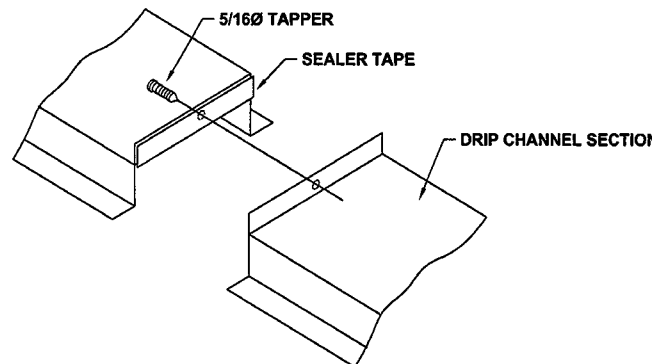

Figure 4 - Drip Channel Assembly
9. Remove the 1/4" bolts which hold the drip channel retaining clips to the end panel. Remove the drip channel sections and fasten them together, end to end, by driving a self-tapping 5/16" screw through the section end with the larger hole into the mating end with the smaller hole. Stainless steel units will use 5/16" stainless steel nuts and bolts. See Figure 4.